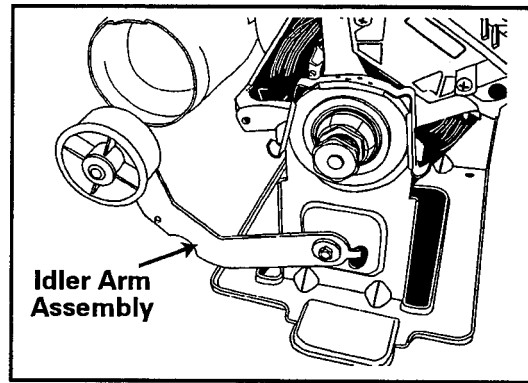

Figure 7-8
5. Unhook idler spring from the base frame and remove screw securing the assembly to motor support bracket, (*See Figure 7-8*).